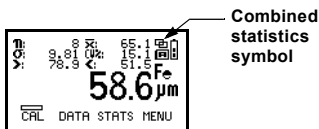

Figure 39. Reading screen with all statistics
e. When readings are combined a  symbol will be displayed on the Reading Screen (Figure 39).